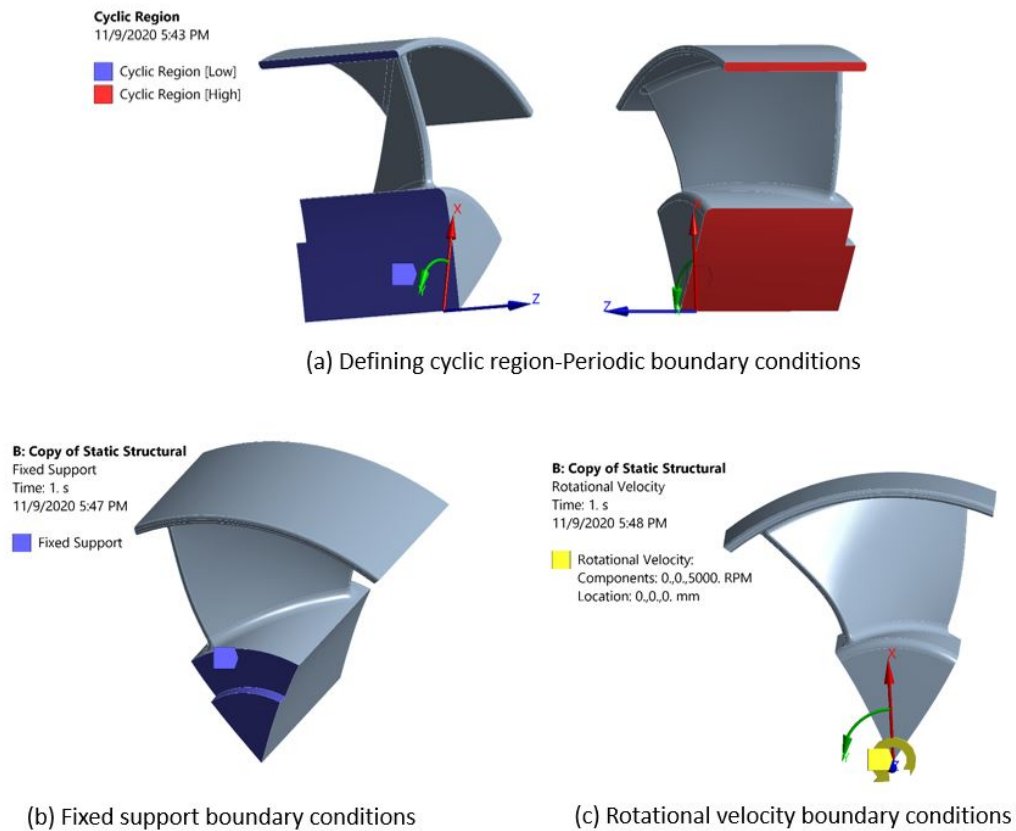

Figure 2: The periodic (cyclic) sector of the fan and the boundary conditions
1. Download 1/7 th sector of the fan provided to you as stp file form the black-board (fan-sector.stp). Run static structural analysis of the model using the boundary conditions shown in Fig.2. Don't forget to use the right material (glass filled nylon) for the analysis. Plot the contours of Von-Mises stress, total deformation, radial deformation and safety factor. Compare your results with the results you obtained in part-1. Do you think the temperature load that was present in Part-1 (and does not exist for this simulation) has any effect on the deformation, the stress level, and the safety factor of the fan?